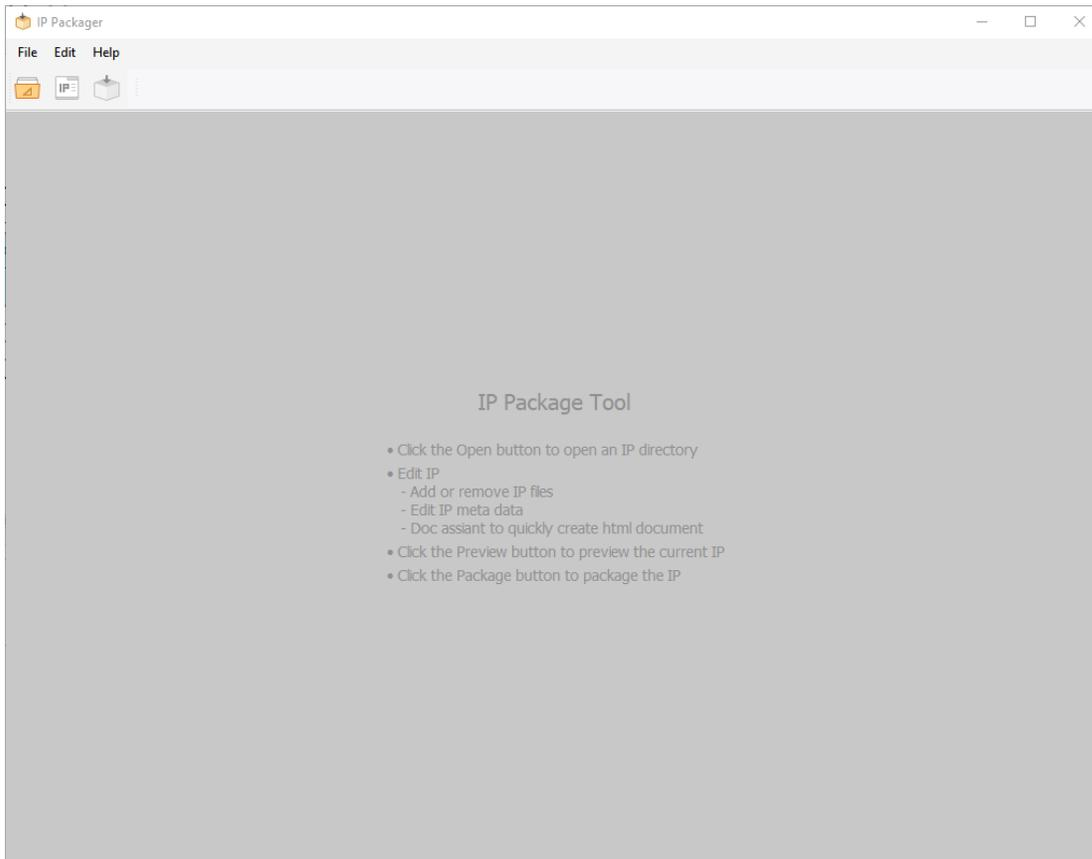

Figure 3.3. IP Packager GUI
2. IP Packager is launched (Figure 3.3)